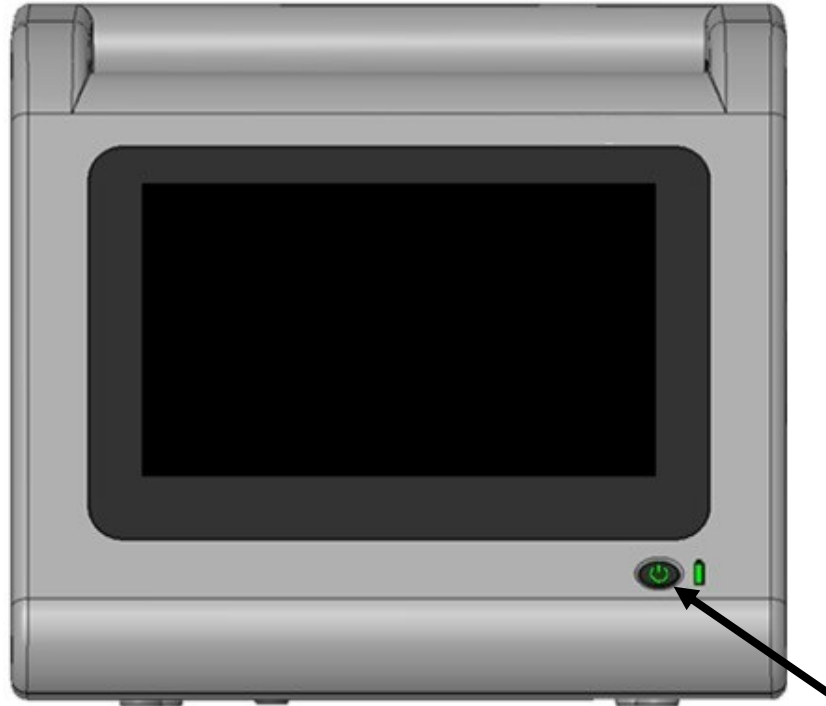

Figure 7: On/Off switch location
- Press the ON/Off switch on the front panel to turn the monitor “ON” (refer to Figure 7).
- Press and hold the ON/Off switch on the front panel for two (2) seconds to turn the monitor “Off” (refer to Figure 7).